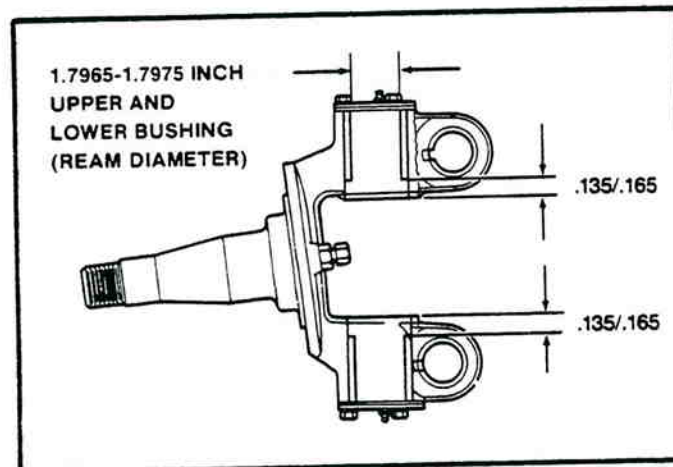

Figure 1-15. Bronze Bushing Installation.
3. The bushing can now be pressed in until it is .135" to .165" from the inside machined surface of the knuckle. This applies to both upper and lower bushings. **Do not install seals until after the reaming operation is complete.** Refer to figure 1-15.